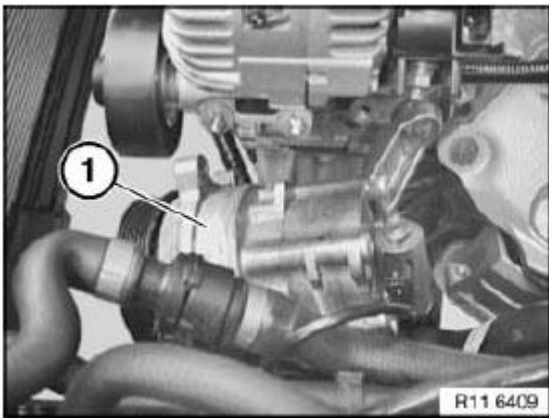

Fig. 3: Identifying Power Steering Pump
Release power steering pump (1) and set down on front axle carrier. See **Fig. 3**.